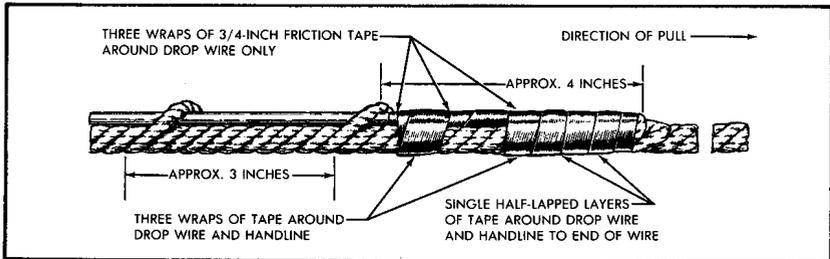

FIGURE 7. Alternate Tie to Prevent Sagging
*NOTE: If the handline has been placed over a drive hook or other support on which a square knot would sag, fasten the wire to the handline as shown in Figure 7.*
h. Standing on the ground, throw the free end of the handline over the power wires or power cables. Tie this end of the handline to the end of the drop wire by means of a square knot, serving the end of the wire around itself without sharp bends. If the handline has been placed over a drive hook or other support on which the square knot would snag, fasten the handline to the wire as shown in Figure 7.